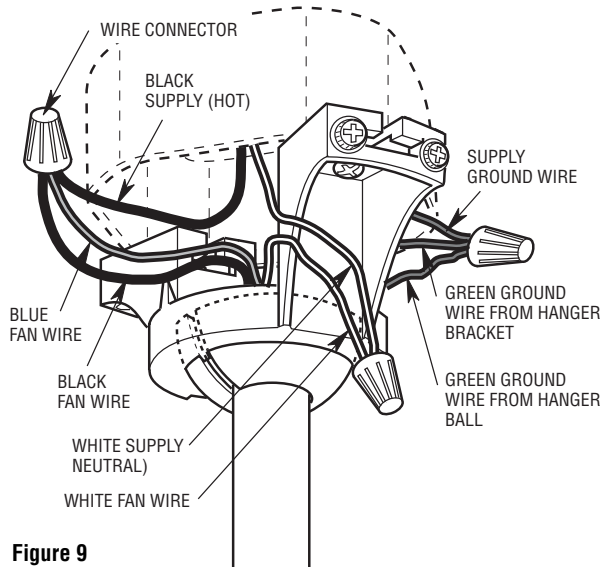

Figure 9
1. Connect the green grounding lead from the hanger ball and the green grounding lead from the hanger bracket to the grounding conductor of supply (this may be a bare wire or wire with green colored insulation) (Figure 9). Securely connect wires using wire connectors supplied.
- 2. Securely connect the fan motor white wire to the supply white (neutral) wire using wire connector supplied (Figure 9). Securely connect the fan motor black wire and blue wire to the supply black (hot) wire using wire connector supplied (Figure 9). After connections have been made, turn leads upward and carefully push leads into the outlet box, with the white and green leads on one side of the outlet box and the black and blue leads on the other side of the outlet box.